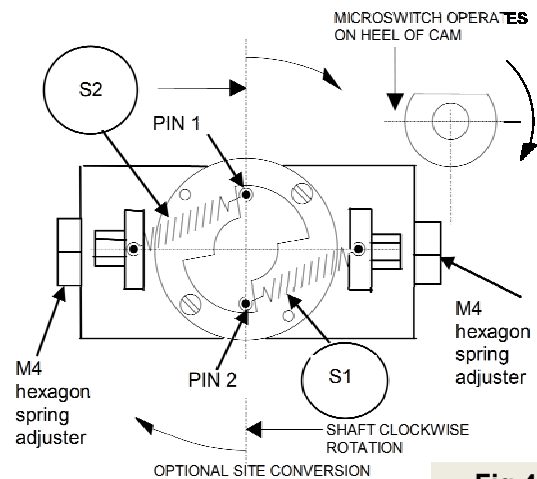

Fig 4
### Set point adjustments (Model 131) (See fig. 4):
### Changing direction of flow (Model 131) (See fig. 4, 5):
If when installed the direction of operation is wrong this can be reversed in situ as follows (refer to figs 4 & 5):
2. Remove two M3 screws and reassemble plate P as shown in fig 4.